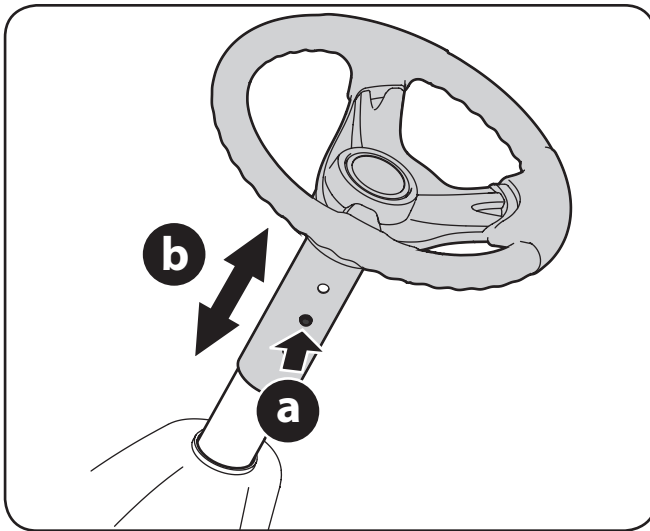

Figure 5-2
2. Push the button (a) on the steering column and raise or lower the steering wheel (b) to the desired position. See Figure 5-2.